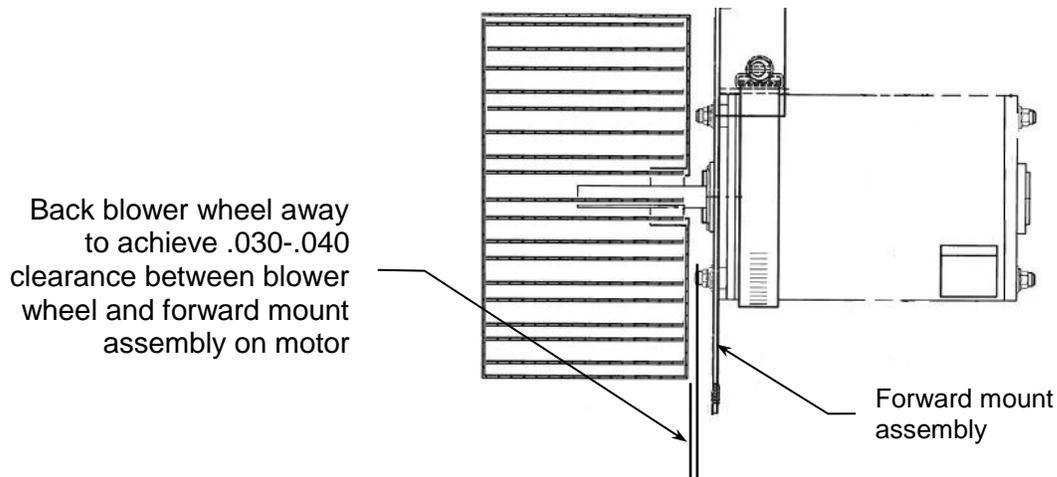

Figure 18: Aft Evap Blower Motor and Wheel Assembly
- E. Note the clearance between blower wheel and forward mount assembly on motor. Record clearance for reference (Figure 18).
- B. Install retained blower wheel on new motor. Press the blower wheel onto the motor shaft until it stops against motor. Back blower wheel away to achieve the noted clearance between blower wheel and forward mount assembly on motor. Apply one drop of low strength Loctite to set screw and tighten against flat portion of motor shaft to lock wheel in place (Figure 18).